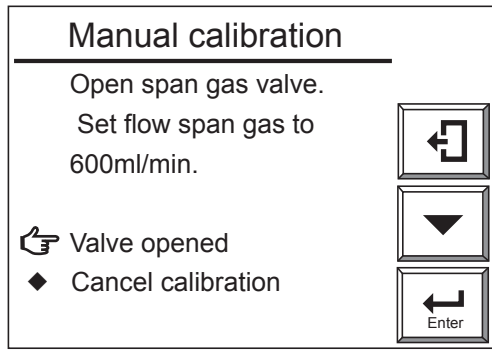
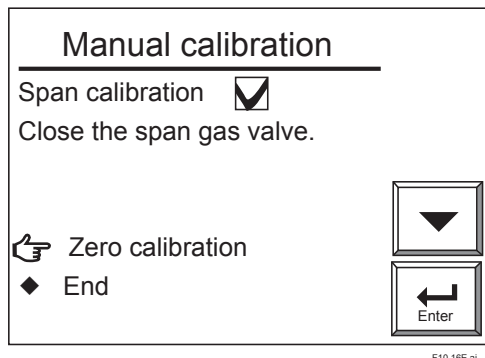

Figure 10.15 Manual Calibration Display
Figure 10.16 Manual Calibration Display
- (2) Next, adjust the flow rate to 600 ± 60 ml/min using the span gas valve "AIR" (the flow check ball stops floating on the green line when the valve is slowly opened). To rotate the valve shaft, loosen the lock nut and turn it using a flat-blade screwdriver. Turning the valve shaft counterclockwise increases the flow rate.
- (3) After adjusting the flow rate, tighten the valve lock nut.
- (4) Select "Valve opened" (to start calibration) from the Manual calibration display shown in Figure 10.15. Check the Trend graph display to see that the measured value is stabilized. Then press the [Enter] key. The Manual calibration display shown in Figure 10.16 appears. Disconnect the power cord to stop the pump.
- (1) When the display shown in Figure 10.15 appears during calibration, open the span gas flow setting valve of the flow setting unit and adjust the flow rate to 600 ± 60 ml/min. Turn the valve slowly counterclockwise after loosening the lock nut if the valve has a lock nut. To check the flow rate, use the calibration flowmeter. If the sample gas pressure is extremely high, adjust the sample gas pressure to obtain pressures (listed in Table 10.7) $\pm 10\%$.
- (2) Adjust the flow rate and select "Valve opened" from the Manual calibration display. Check the Trend graph display to see that the measured value is stabilized. Then press the [Enter] key. The Manual calibration display shown in Figure 10.16 appears.
- (3) Close the span gas flow setting valve to stop the span gas (air) flow. If the valve has a lock nut, be sure to tighten the lock nut to prevent any leakage of span gas into the sensor during measurement.